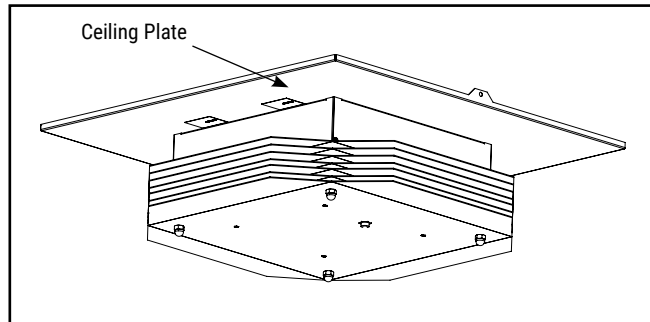

Figure 1.
1. Remove the fixture from the shipping carton. (See Figure 1)